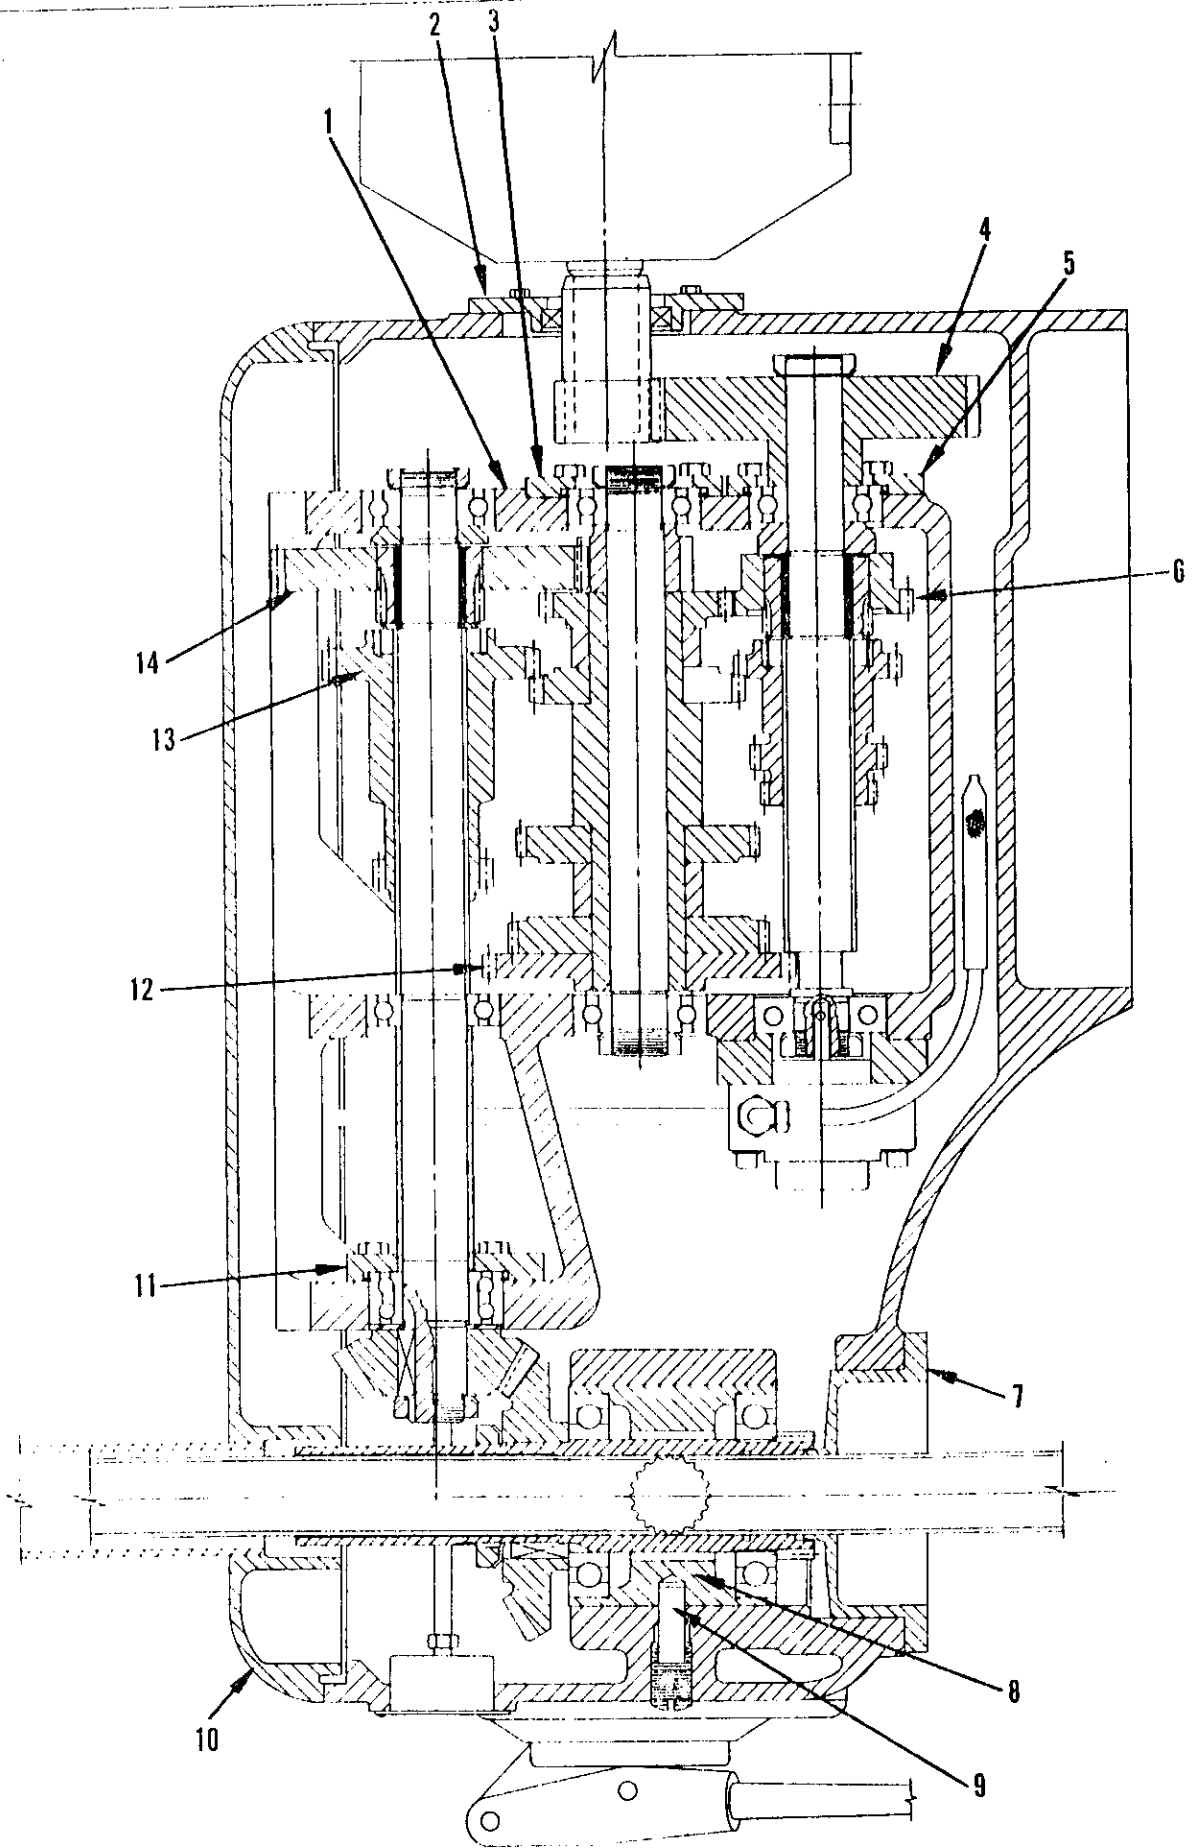

Figure M-2. Top Head - Speed Transmission
## **SPEED GEAR TRAIN REMOVAL (Figure M-2)**
7. Remove the transmission frame (1, Figure M-2).
8. To remove the spiral bevel gear unit (after transmission is removed), remove the bottom closure (7) and unscrew the locating plug (9). Drive the bearing cartridge upward using a bronze rod to drive against the lower end of the cartridge (8).
## **DISMANTLING THE TRANSMISSION FRAME (Figure M-2)**
### **LEGEND - Figure M-2**